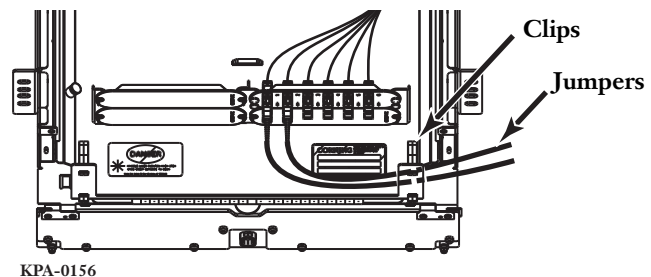

Figure 12 — Route Jumpers
- Step 2:** Install jumpers as specified on planning diagrams. Route jumpers through the routing clips on either side at the front of the housing (Figure 12).